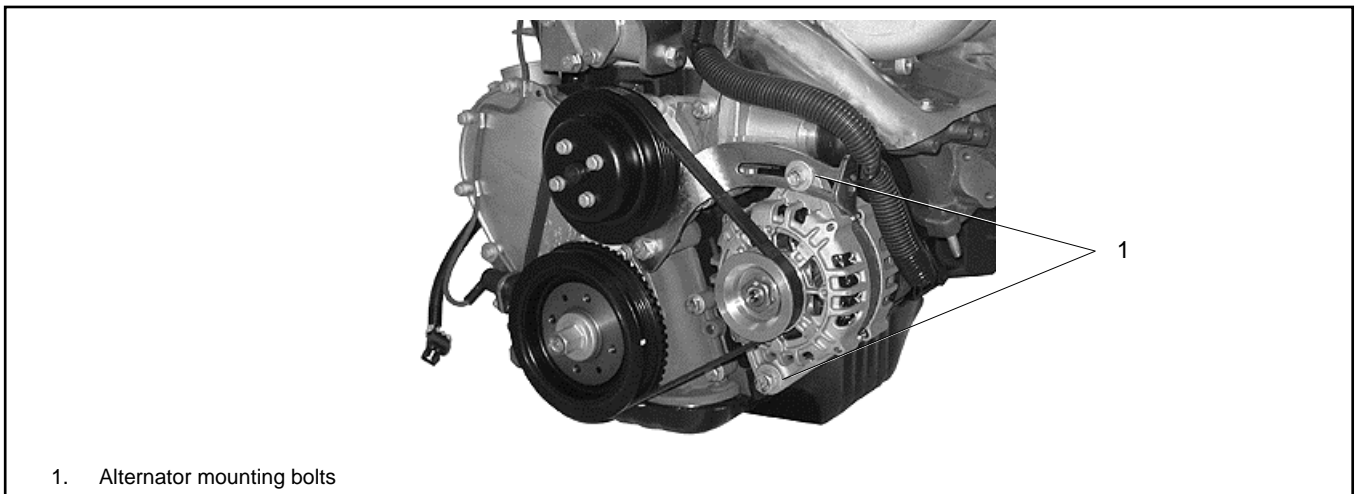

Figure 30 Alternator Mounting Bolts
1. Loosen the two alternator mounting bolts. See Figure 30.